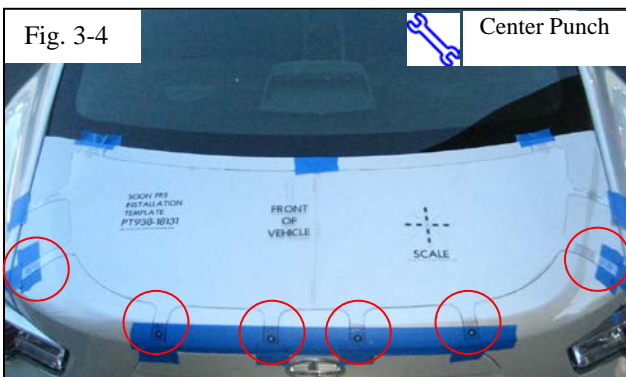

Fig. 3-4
- (e) Apply tape to the ends of the six tabs containing the cross-hairs for the hole locations (Fig. 3-4).